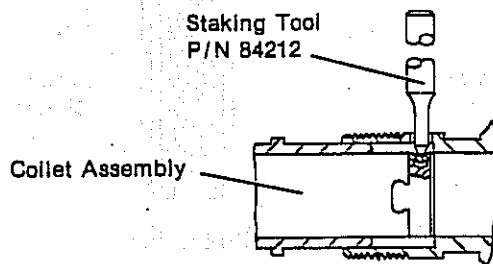

Figure 2a
4. Lock collars must be staked to piston rod and extension to insure proper fastener installation. (Collet assembly is locked to spindle to maintain adjustment for proper function of nose assembly and tool.) See **Figures 2a** and **2b**. For staking operation, use staking tool, P/N 84212, which must be purchased separately. Remove anvil. Firmly support collet assembly and tool. Place staking tool against lock collar. Hit staking tool a light blow with hammer to stake lock collar to spindle. Reinstall anvil.